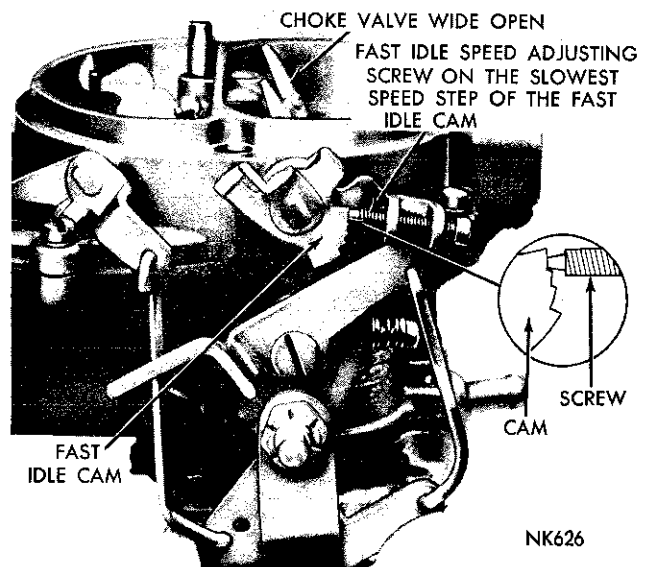

Fig. 16—Fast Idle Speed Adjustment (On the Vehicle)
(3) The fast idle adjusting screw should be contacting the slowest speed step on the fast idle cam (Fig. 16).
(4) With the engine warmed-up to the normal operating temperature, turn the fast idle adjusting screw **in** or **out** to secure 700 rpm. (Automatic Transmission) or 600 rpm (Manual Transmission). **Reposition the cam and throttle after every screw adjustment to apply normal throttle closing torque.**